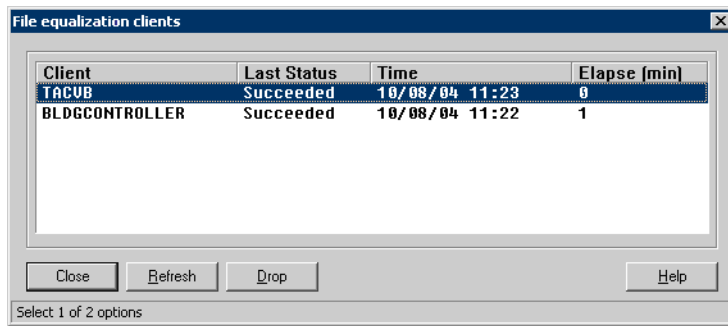

Figure 3-34. File Equalization Clients Dialog
1. Select the **Clients** button to open the File Equalization Clients dialog (see Figure 3-34). This button is only available after the process of promoting the workstation to filemaster is complete.